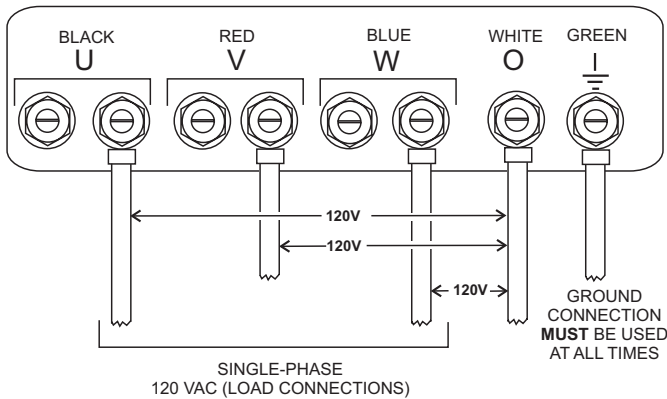

**Figure 28. UVWO Terminal Lugs
2. Connect the load wires to the UVWO terminals as shown in Figure 28.